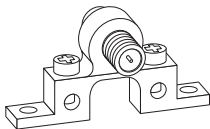

Fig. 1a
- 1) Connect one end of a coax cable to the antenna and the other end to a 75ohm grounding block (not provided). Below (**Fig. 1a**) is an example of a 75ohm grounding block.